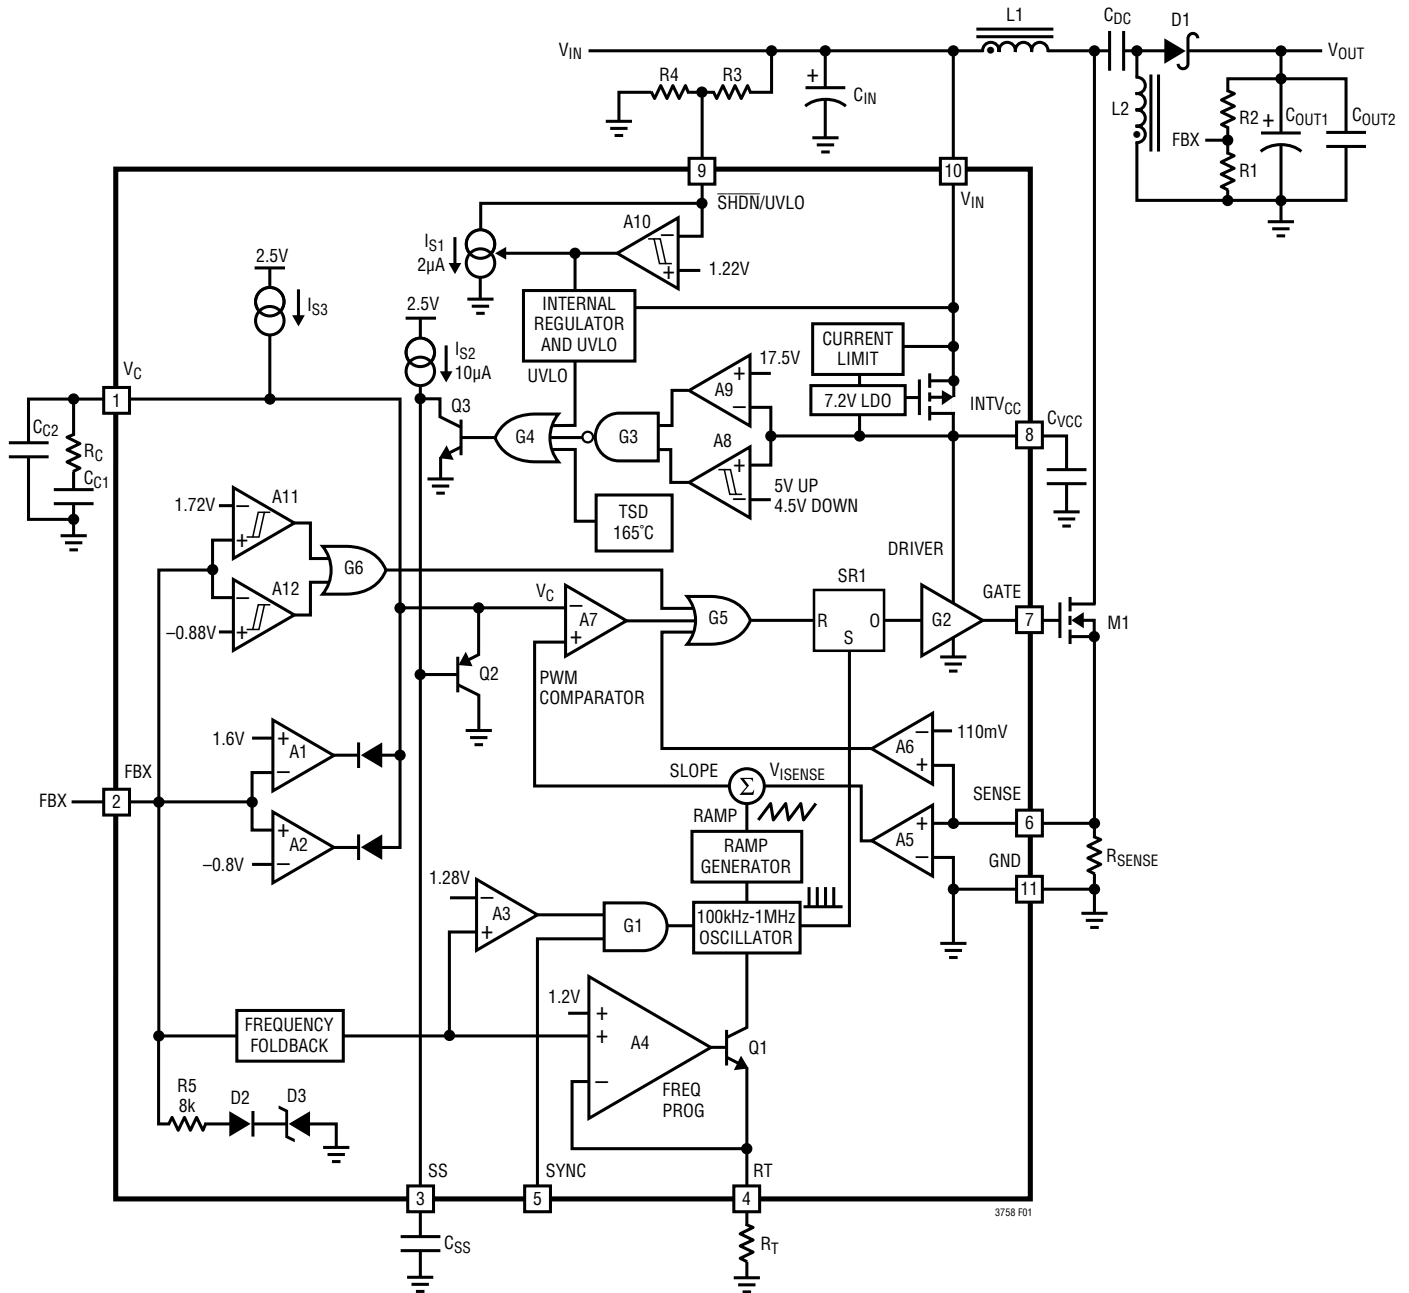

Figure 1. LT3758 Block Diagram Working as a SEPIC Converter
The LT3758 uses a fixed frequency, current mode control scheme to provide excellent line and load regulation. Operation can be best understood by referring to the Block Diagram in Figure 1.
The LT3758 is capable of generating either positive or negative output voltage with a single FBX pin. It can be configured as a boost, flyback or SEPIC converter to generate positive output voltage, or as an inverting converter to generate negative output voltage. When configured as a SEPIC converter, as shown in Figure 1, the FBX pin is pulled up to the internal bias voltage of 1.6V by a voltage divider (R1 and R2) connected from V_{OUT} to GND. Comparator A2 becomes inactive and comparator A1 performs the inverting amplification from FBX to V_C . When the LT3758 is in an inverting configuration, the FBX pin is pulled down to -0.8V by a voltage divider connected from V_{OUT} to GND. Comparator A1 becomes inactive and comparator A2 performs the noninverting amplification from FBX to V_C .
The purpose of this current is to allow the user to program the rising hysteresis. The Block Diagram of the comparator and the external resistors is shown in Figure 1. The typical falling threshold voltage and rising threshold voltage can be calculated by the following equations:
An internal, low dropout (LDO) voltage regulator produces the 7.2V INTV_{CC} supply which powers the gate driver, as shown in Figure 1. The LT3758 contains an undervoltage lockout comparator A8 and an overvoltage lockout comparator A9 for the INTV_{CC} supply. The INTV_{CC} undervoltage (UV) threshold is 4.5V (typical), with 0.5V hysteresis, to ensure that the MOSFETs have sufficient gate drive voltage before turning on. The logic circuitry within the LT3758 is also powered from the internal INTV_{CC} supply.
The choice of operating frequency may be determined by on-chip power dissipation, otherwise it is a trade-off between efficiency and component size. Low frequency operation improves efficiency by reducing gate drive current and MOSFET and diode switching losses. However, lower frequency operation requires a physically larger inductor. Switching frequency also has implications for loop compensation. The LT3758 uses a constant-frequency architecture that can be programmed over a 100kHz to 1000kHz range with a single external resistor from the RT pin to ground, as shown in Figure 1. The RT pin must have an external resistor to GND for proper operation of the LT3758. A table for selecting the value of R_T for a given operating frequency is shown in Table 1.
The output voltage V_{OUT} is set by a resistor divider, as shown in Figure 1. The positive and negative V_{OUT} are set by the following equations:
In the applications where V_{OUT} is pulled up by an external positive power supply, the FBX pin is also pulled up through the R2 and R1 network. Make sure the FBX does not exceed its absolute maximum rating (6V). The R5, D2, and D3 in Figure 1 provide a resistive clamp in the positive direction. To ensure FBX is lower than 6V, choose sufficiently large R1 and R2 to meet the following condition:
The LT3758 addresses this mechanism with the SS pin. As shown in Figure 1, the SS pin reduces the power MOSFET current by pulling down the V_C pin through Q2. In this way the SS allows the output capacitor to charge gradually toward its final value while limiting the start-up peak currents. The typical start-up waveforms are shown in the Typical Performance Characteristics section. The inductor current I_L slewing rate is limited by the soft-start function.
load transient response, when compared to the LT3758. New internal circuits ensure that the transient from not switching to switching at high current can be made in a few cycles. The optimum values depend on the converter topology, the component values and the operating conditions (including the input voltage, load current, etc.). To compensate the feedback loop of the LT3758/LT3758A, a series resistor-capacitor network is usually connected from the V_C pin to GND. Figure 1 shows the typical V_C compensation network. For most applications, the capacitor should be in the range of 470pF to 22nF, and the resistor should be in the range of 5k to 50k. A small capacitor is often connected in parallel with the RC compensation network to attenuate the V_C voltage ripple induced from the output voltage ripple through the internal error amplifier. The parallel capacitor usually ranges in value from 10pF to 100pF. A practical approach to design the compensation network is to start with one of the circuits in this data sheet that is similar to your application, and tune the compensation network to optimize the performance. Stability should then be checked across all operating conditions, including load current, input voltage and temperature.